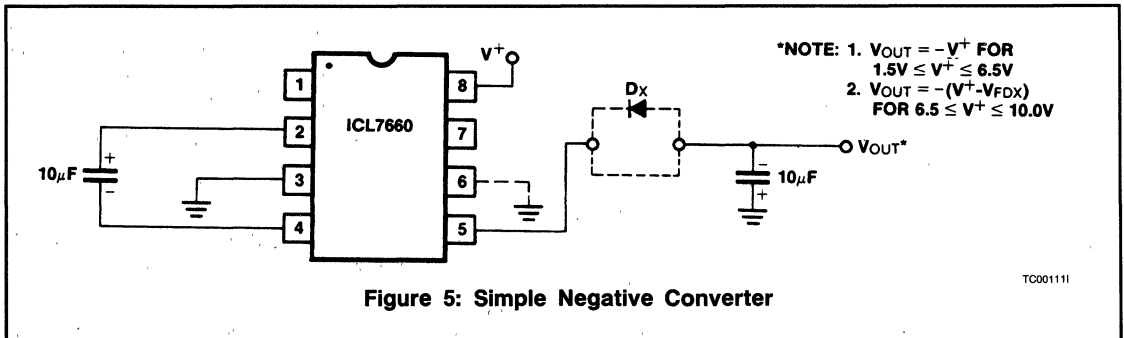
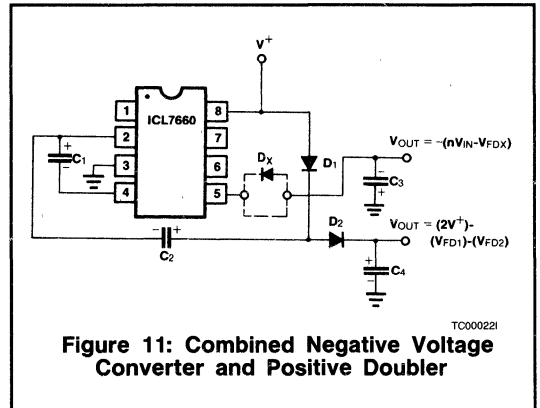

Figure 5: Simple Negative Converter
Figure 11: Combined Negative Voltage Converter and Positive Doubler
The majority of applications will undoubtedly utilize the ICL7660 for generation of negative supply voltages. Figure 5 shows typical connections to provide a negative supply where a positive supply of +1.5V to +10.0 volts is available. Keep in mind that pin 6 (LV) is tied to the supply negative (GND) for supply voltages below 3.5 volts, and that diode D_X must be included for proper operation at higher voltages and/or elevated temperatures.
The output characteristics of the circuit in Figure 5 are those of a nearly ideal voltage source in series with 55 ohms. Thus for a load current of -10mA and a supply voltage of +5 volts, the output voltage will be -4.3 volts. The dynamic output impedance due to the capacitor impedances is approximately 1/ωC, where:
Figure 11 combines the functions shown in Figures 5 and 10 to provide negative voltage conversion and positive voltage doubling simultaneously. This approach would be, for example, suitable for generating +9 volts and -5 volts from an existing +5 volt supply. In this instance capacitors C₁ and C₃ perform the pump and reservoir functions respectively for the generation of the negative voltage, while capacitors C₂ and C₄ are pump and reservoir respectively for the doubled positive voltage. There is a penalty in this configuration which combines both functions, however, in that the source impedances of the generated supplies will be somewhat higher due to the finite impedance of the common charge pump driver at pin 2 of the device.